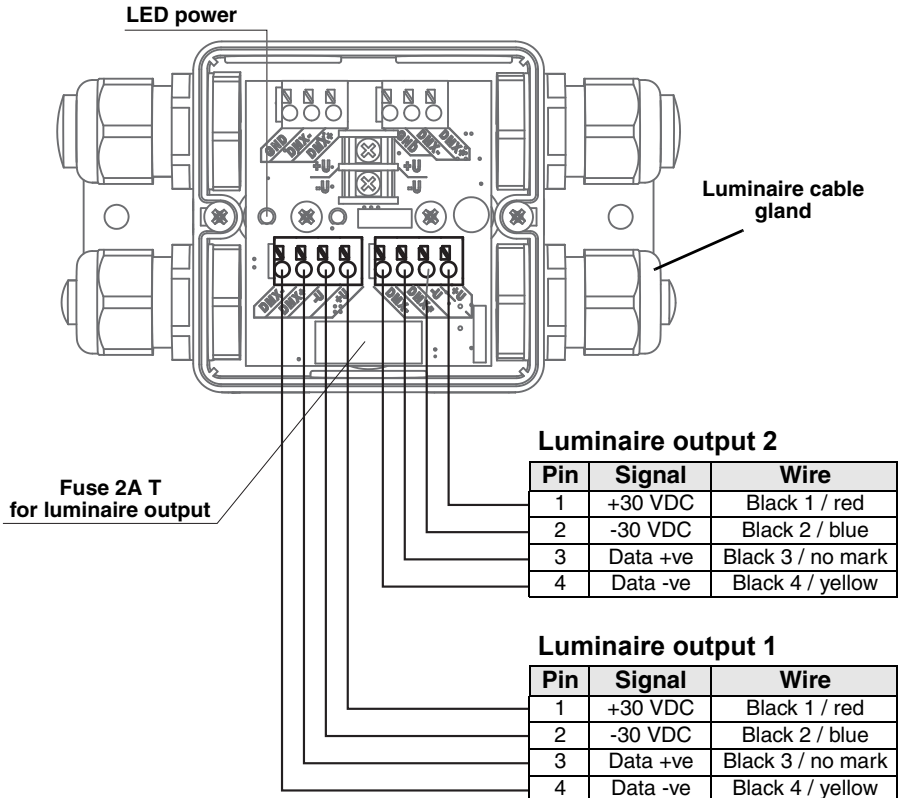

Figure 29: Luminaire cable pinout in Splitter
2. See "Installing a cable in a cable gland" on page 23. Pass the luminaire cable through either of the luminaire (smaller cable diameter) cable glands on the Splitter (see Figure 29).
3. See Figure 29. Connect the wires from the luminaire cable to either of the luminaire cable terminals in the Splitter as follows: